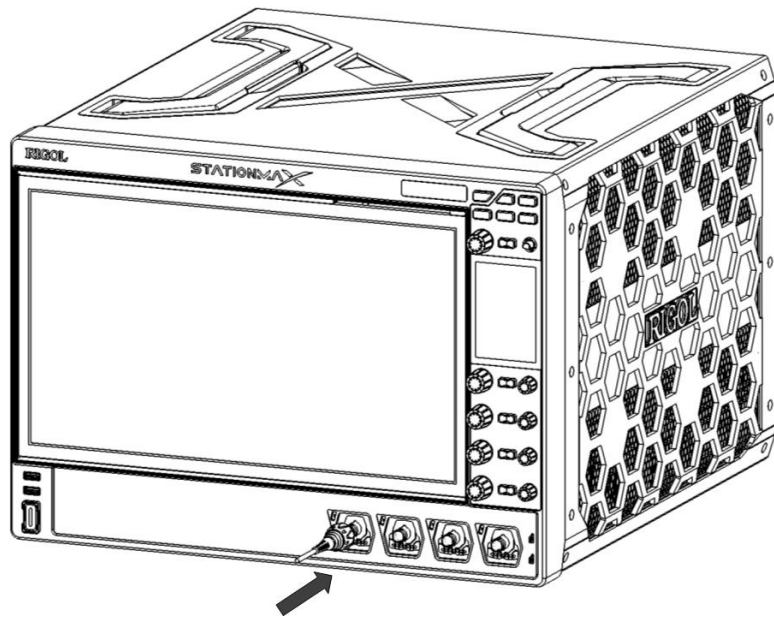

Figure 5.2 Connect the Passive Probe
1. Connect the BNC terminal of the probe to an analog channel input terminal of the oscilloscope on the front panel as shown in *Figure 5.2*.